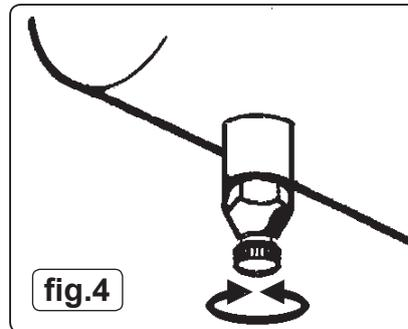

fig.4
At the end of each working day, drain any moisture from the main tank. Place a container under the drain plug and then carefully unscrew it (fig.4). **DO NOT** allow moisture to accumulate in the tank as this will corrode the inside of the tank and affect the pressure rating of the tank.
- Drain condensation by opening the valve (fig.4) located under the tank.